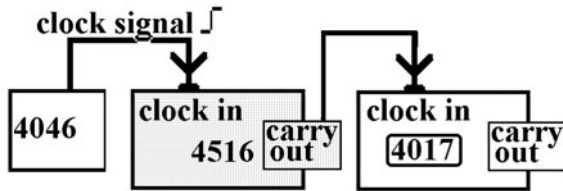

Figure L45-9
2. This is even better. The 4046 clocks to the 4516. Connect the carryout of the 4516 directly to the clock input of the 4017. The setup is shown in Figure L45-9. What is happening?